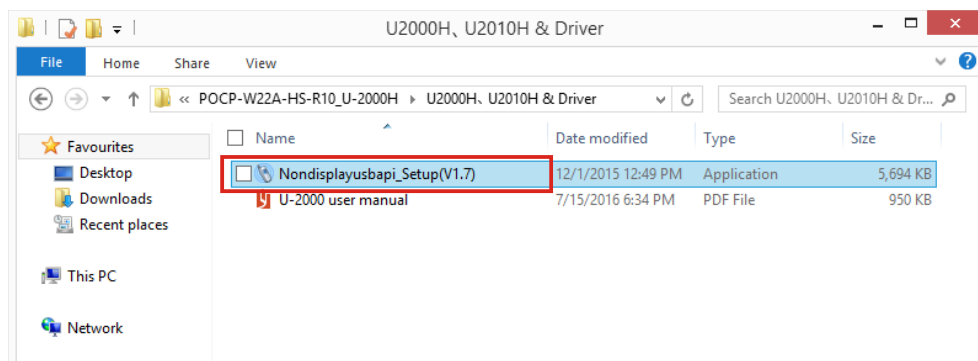

Figure 3-7: Handset Driver Folder
Step 2: Select **Other** from the list of the driver menu. Double click the setup file in the **POCP-W22A-HS-R10_U-2000H** folder to install the handset driver (**Figure 3-7**).